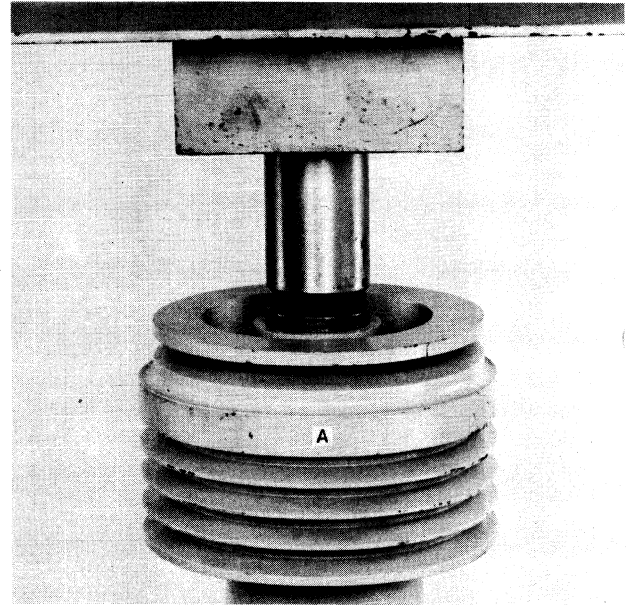

FIGURE 5A-27
11. Install the elbow as shown at A, Figure 5A-26.